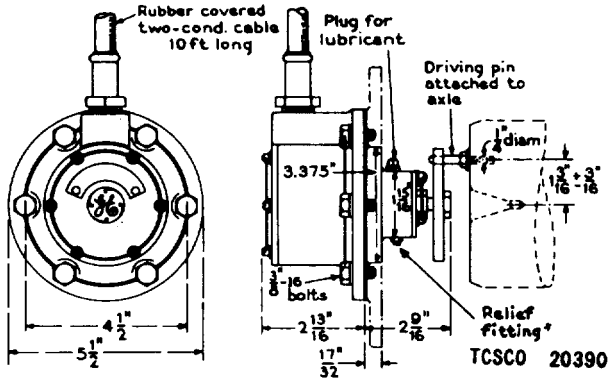

Figure 31. CM-4 Generator assembly method.
a. Mounting Generator. Install a driving pin on the end of the axle as shown in figure 31. Bolt the special journal box cover into position. Turn the generator rotor so that the driving arm engages with the pin on the axle. Carefully position the generator against the journal box cover checking that there is clearance between the pin and generator. Bolt the generator, with the drain hole down, to the journal box cover using standard 3/8-16 bolts. Check that the generator shaft is concentric with the wheel axle. Gaskets are provided to make an oil-tight connection. Place a piece of 3/4-inch hose, clamped at both ends, over the generator cable for protection.